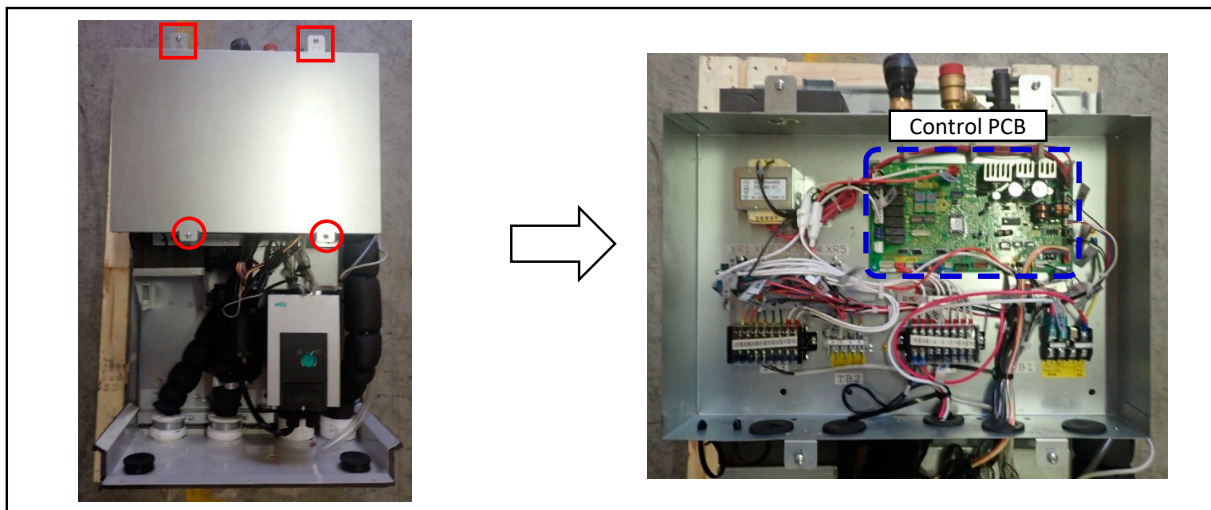

Fig5. Removing control lid
- ① Remove 2 lid fixing screws.(○mark, Fig.5) Loosen 2 lid fixing screws.(□mark, Fig.5)
- ② Remove Control lid.